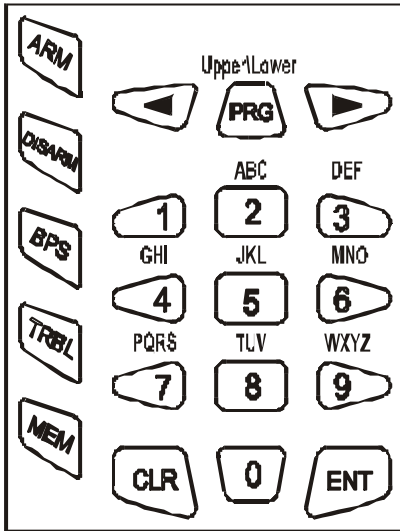

Fig. 1 LCD keypad
4. Fig. 1 shows LCD keys.
Both, figures and letters can be keyed in. The letter and respective figure association is shown in Fig. 1.